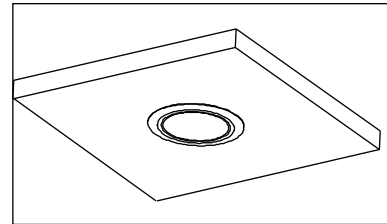

Figure 6 / Figura 6 / Schéma 6
6. Turn the power back on. If the module doesn't illuminate within 5 seconds, turn power off, carefully remove the module and double check all wiring and replace. (Figure 6)